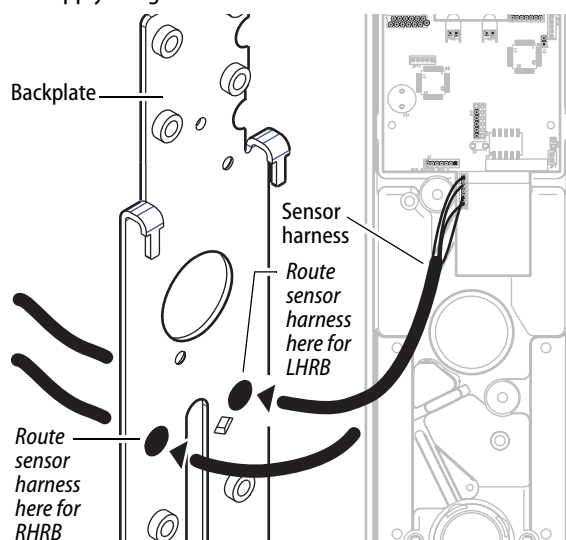

Figure 15 Re-routing the sensor harness for Von Duprin with RQE
- 4 Re-route the sensor harness around the cylinder hole and around the escutcheon boss, then out through one of the alternate wire-routing holes (based on handing) as shown in Figure 15.